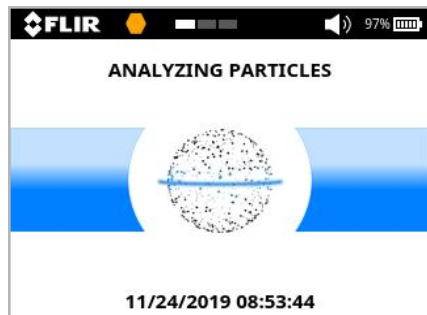

Figure 5-19: Analyzing Particles screen
Step 6: Follow the on-screen prompts and remove the swipe. The system will display the message “Analyzing particles” (Figure 5-19).